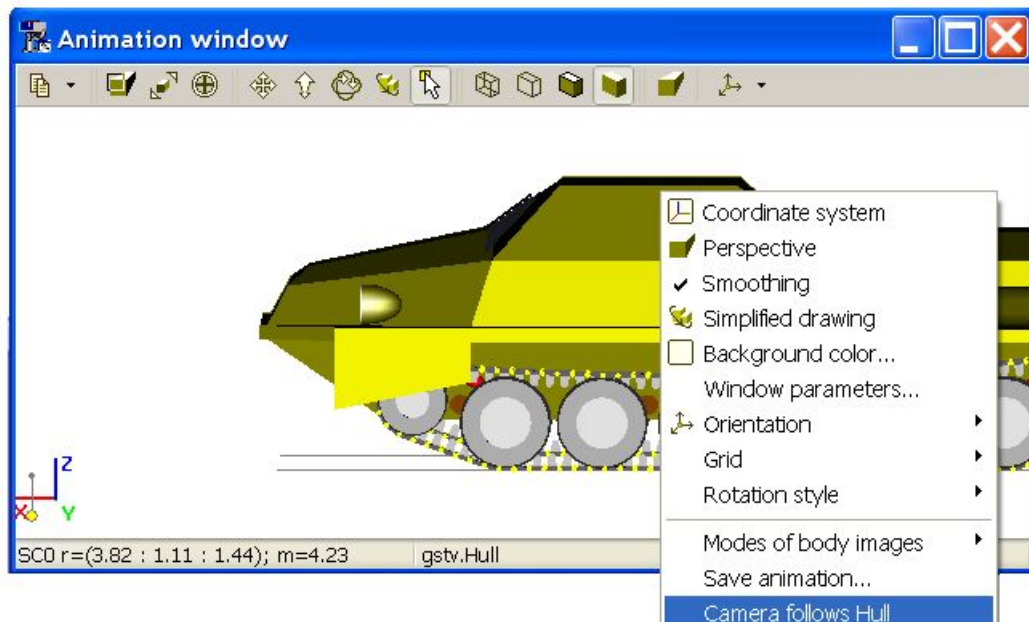

Fig. 60 Setting camera motion
3) Open an animation window and assign the camera motion mode to keep the TV within the window. Move the mouse cursor to the hull image, click the right mouse button, and select the **Camera follows Hull** command, Fig. 60.